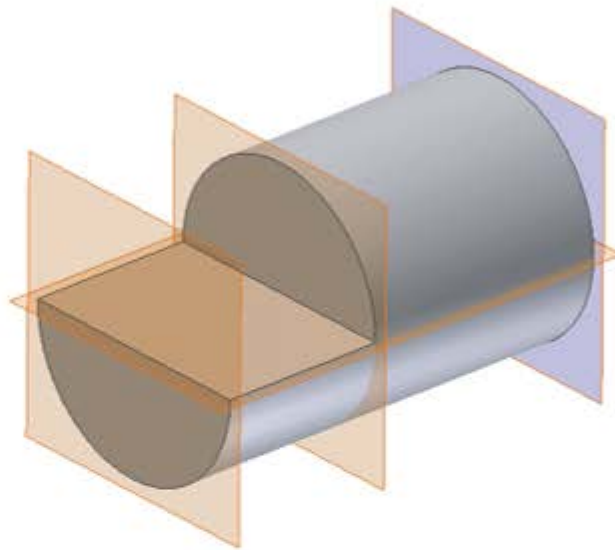

Figure 7–35
2. Which of the following are possible uses for work planes similar to those shown in Figure 7–35? (Select all that apply.)